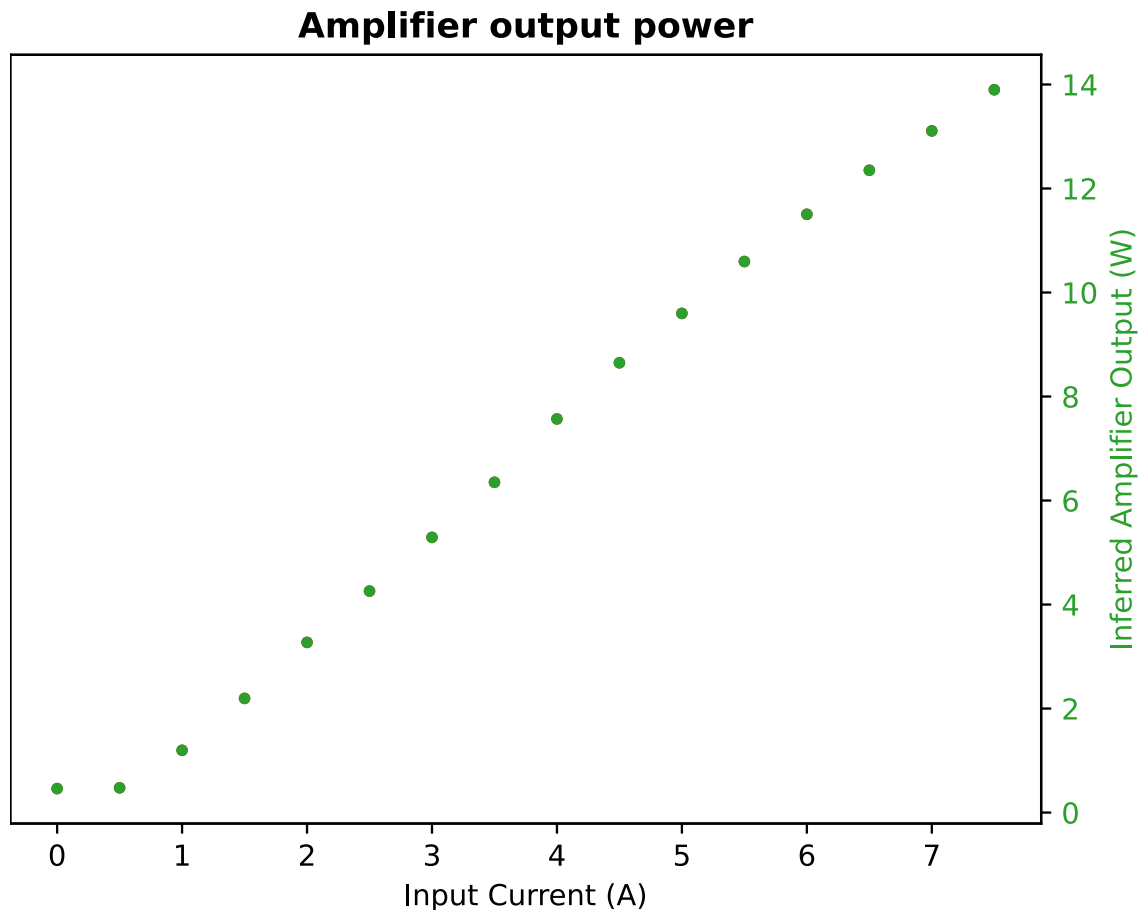

Figure 2. Inferred Amplifier Output Power (W) as a function of Input Current (A). From Lee Log 11325.
- To increase the laser power, turn the Browser/Adjust knob, select the setpoint current I_{dl} , press the enter button, turn the Browser/Adjust knob, set the current to the desired value, press the enter button. Please see Figure 2 for a conversion from input current to output power. It was noted here that the beam shape does not depend on the input current.